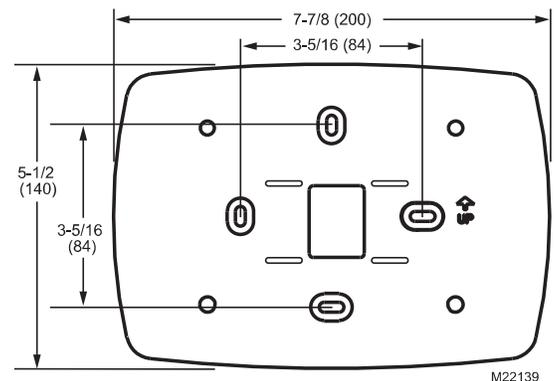

Fig. 3. 32003796-001 Cover Plate dimensions in in. (mm).
- 32003796-001 Cover Plate: see Fig. 3.